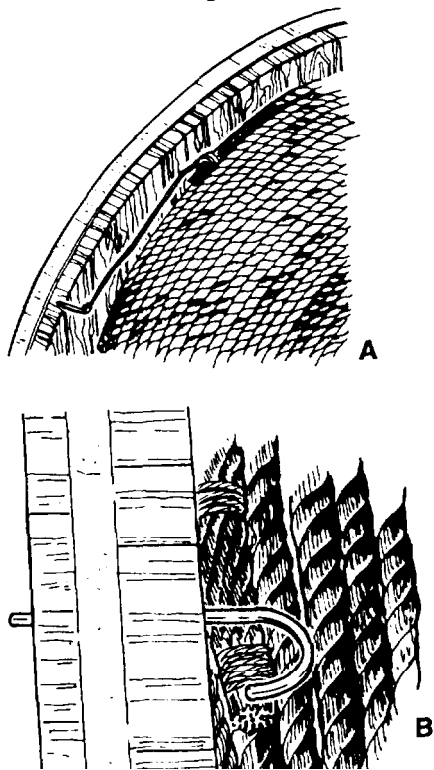

Figure 4-47. *Shipping Damage*
4. Shipping damage: Wire rope abuses during shipment create serious problems (Figure 4-47). One of the more common causes is improper fastening of rope end to reel, e.g., nailing through the rope end. These illustrations show two acceptable methods: